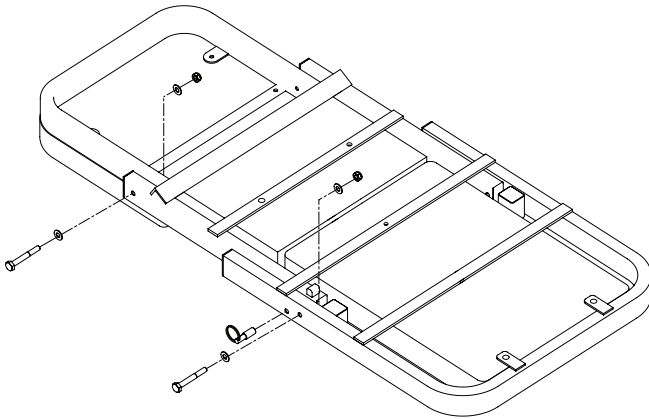

Figure 2 - Creeper Frame assembly
1. Place Creeper Sections face down, arranged as shown in Fig. 2 (note Middle Section orientation).